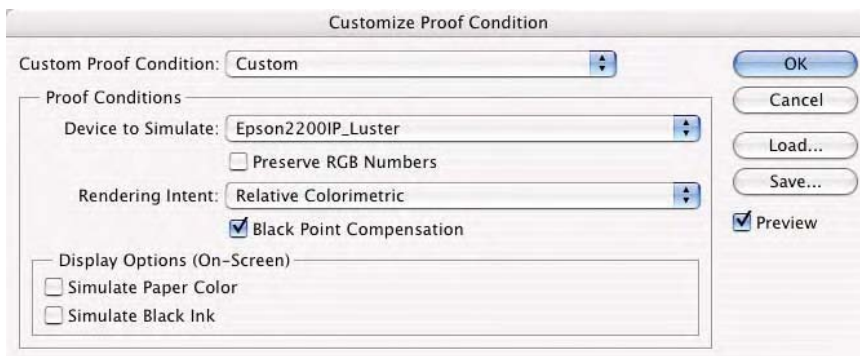

Fig. 9-3-2 The **Customize Proof Conditions** dialog from Photoshop CS2 seen here with my Epson printer profile selected.
2. Under the **View** menu, select **Proof Setup** and then the **Custom** submenu. The dialog seen in Fig. 9-3-2 will appear (the actual profile seen may not match what you see in this figure; don't worry).